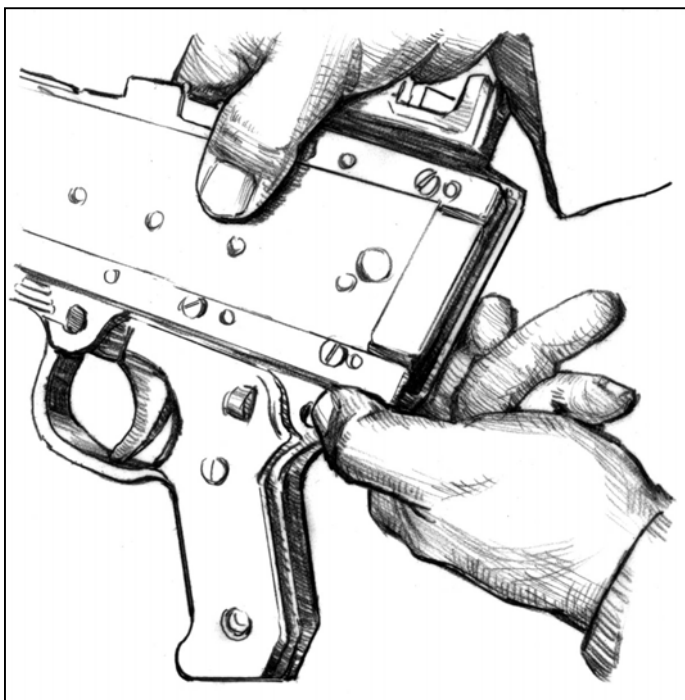
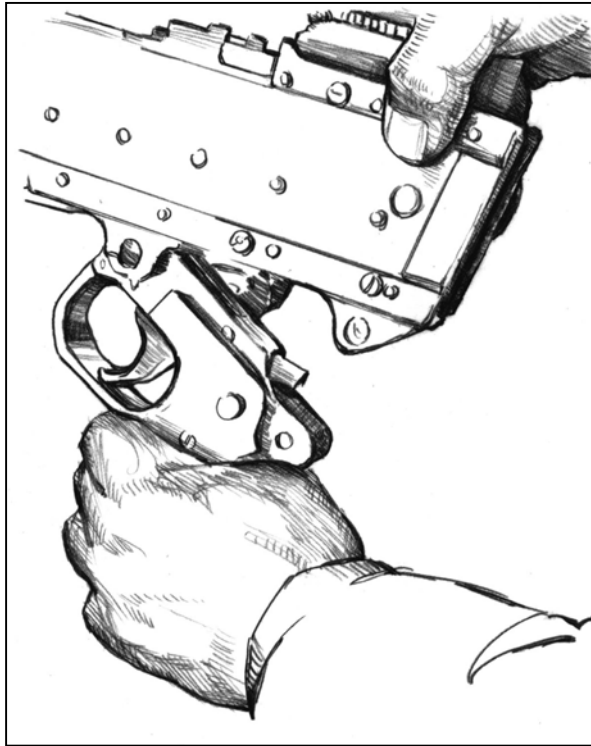

Figure 3-15. Trigger spring pin.
Figure 3-16. Removal of trigger housing.
d. **Remove the Trigger Housing Assembly.** Depress spring pin and remove. You may need to use the back of the back plate of the buttstock to tap on the spring pin, then remove pin with fingers. All pins go from right to left (Figure 3-15, page 3-14). Rotate the rear of the trigger-housing group assembly down, disengage the holding notch at the front of the assembly from its recess on the bottom of the receiver, and remove the assembly from the receiver (Figure 3-16, page 3-14).